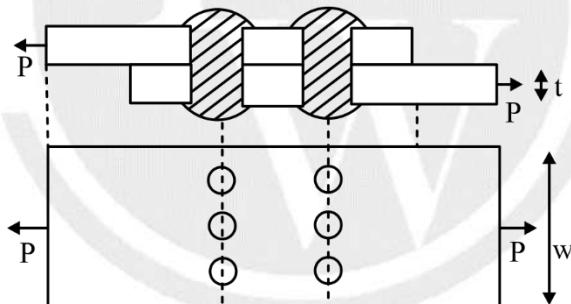

Fig.4.28: Riveted joint with tensile load
- (ii) For figure 4.28 m is 2, n is 3 and N is 6.